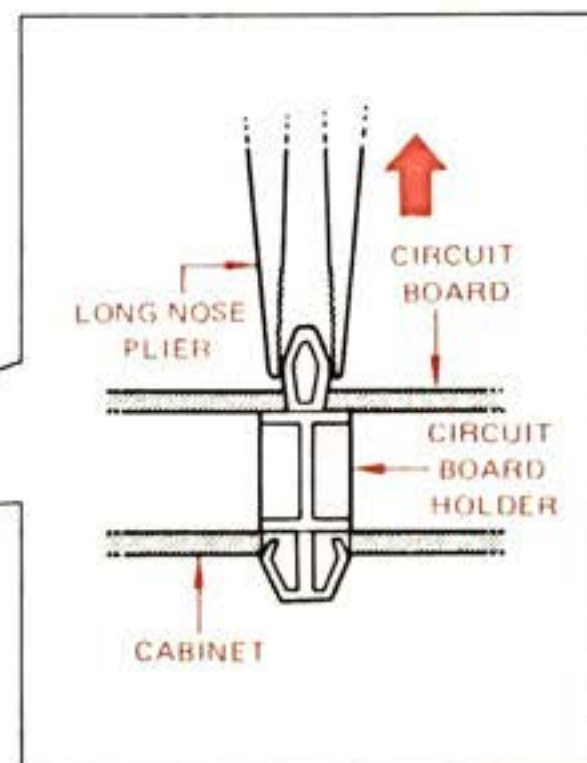

Fig. 4
- Put the circuit holders ❶ to ❸ between a long nose plier in Fig. 4 and remove the control circuit board.
- Put the circuit holders ❶ to ❸ in photo 5 between a long nose plier in Fig. 4 and remove the power circuit board.